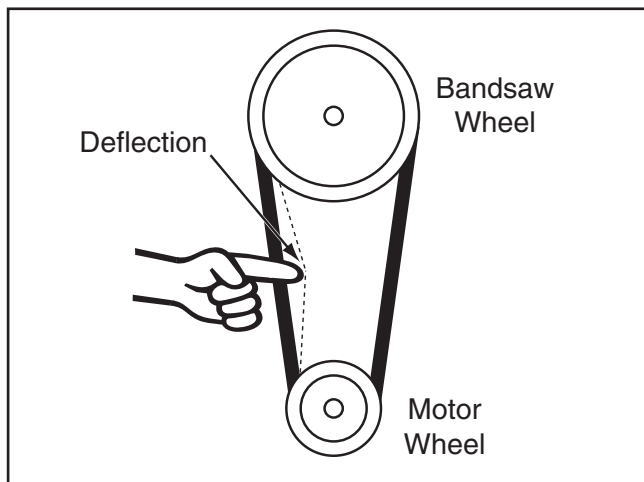

Figure 41. Belt deflection.
3. Check the belt tension. When tensioned correctly, the middle of the belt will deflect approximately $\frac{1}{4}$ " when pushed with moderate pressure (see **Figure 41**).